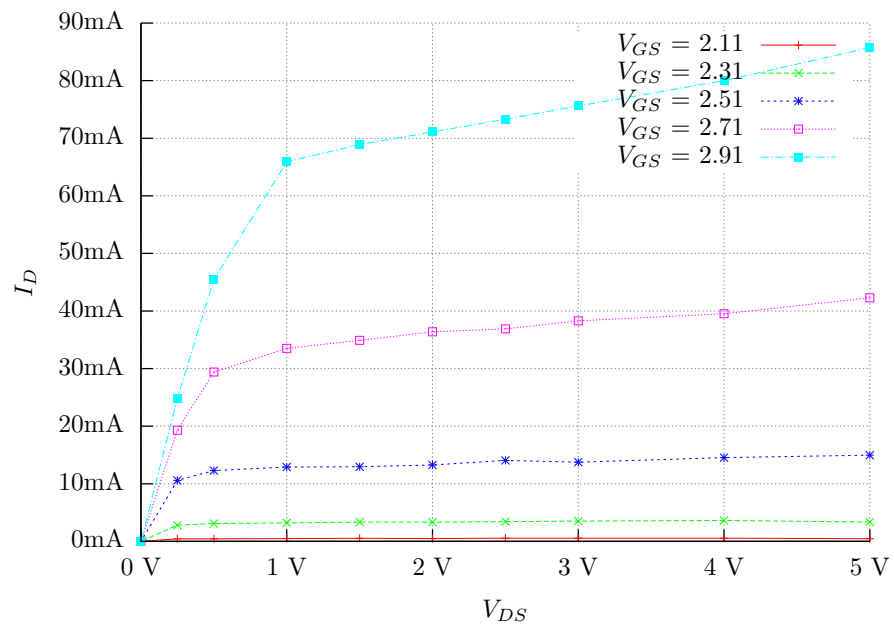

Figure 2: Graph
2. Construct the circuit of figure 2. Use the HP multi-meter to measure the drain current, I_D , and the Fluke multi-meters to measure V_{DS} and V_{GS} . Use the $+6\ \text{V}$ power supply for V_{GG} and the $+25\ \text{V}$ supply for V_{DD} .